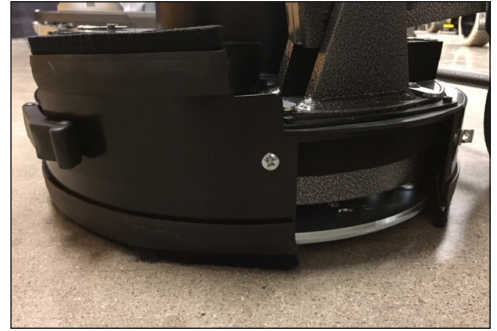

FIG. 15
3. Resecure the guard with the latch (Figure 15).